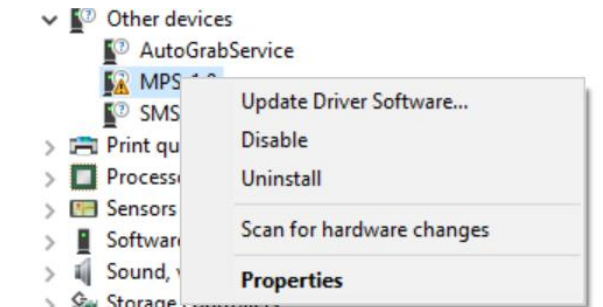

Figure 12: Updating the Driver Software
- Open the Device Manager and select Update Driver Software (see Figure 12).